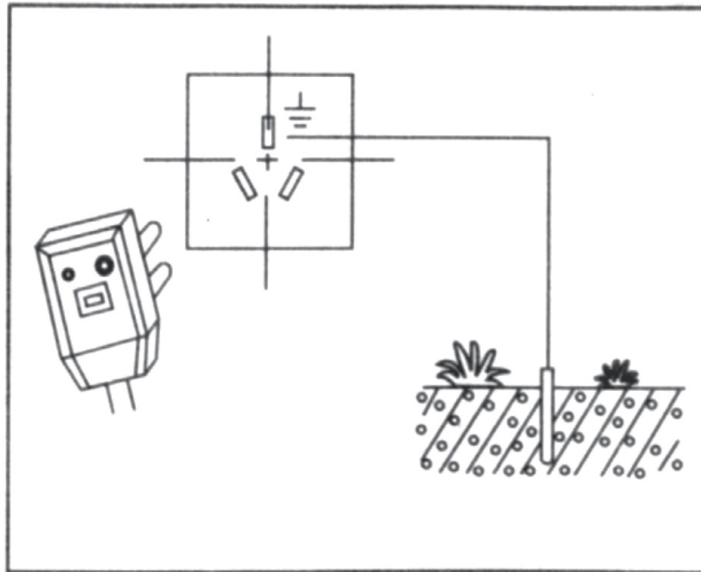

Fig. 9
- ① The socket and plug should be connected well.
- ② If auxiliary electric heating system installed, do connect the live wire, null wire and ground wire correctly with power-leakage protection plug. The socket should be connected to ground. (Fig.9)